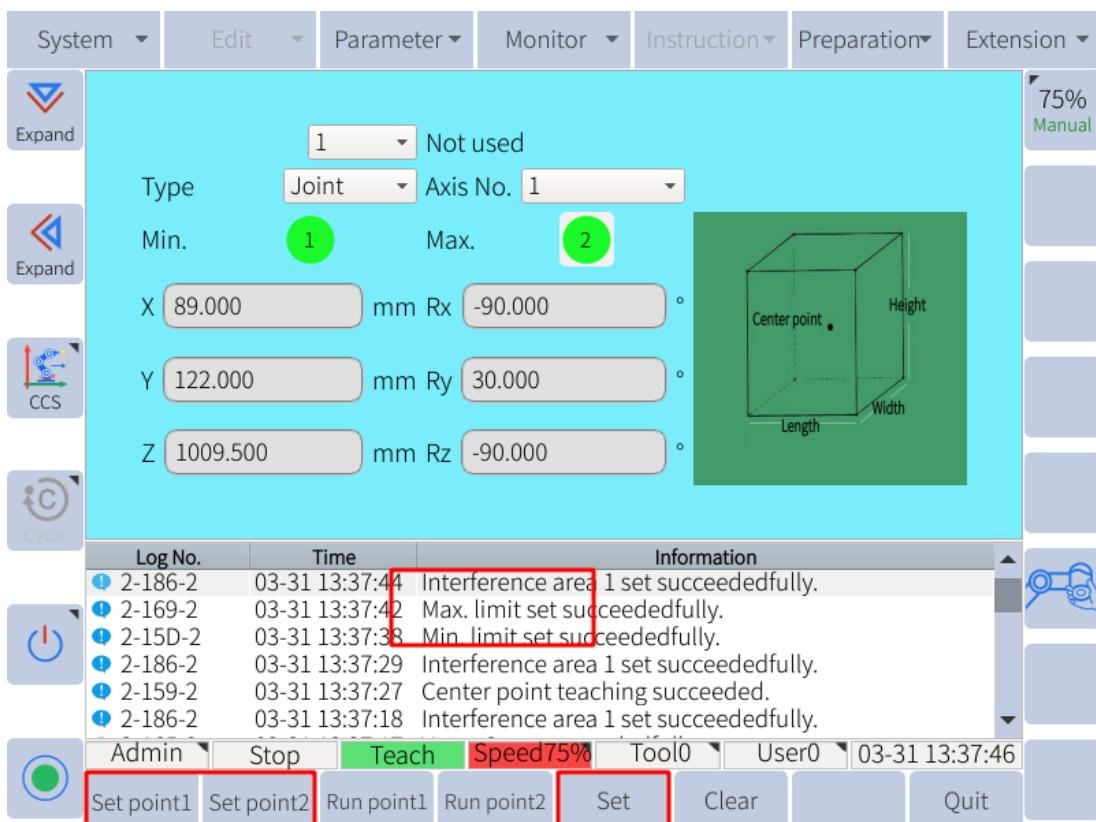

Figure 6-92 : Axis interference area
6. Record the points by pressing “Set” in the submenu area, as shown in **Figure 6-92**.